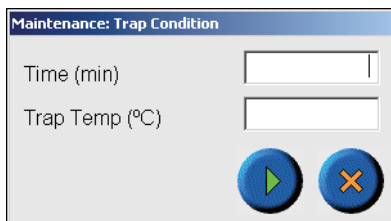

Figure 6.31. Maintenance: Trap Condition dialog box
2. Press the **Trap Condition** icon. The Maintenance: Trap Condition dialog box appears (Figure 6.31).